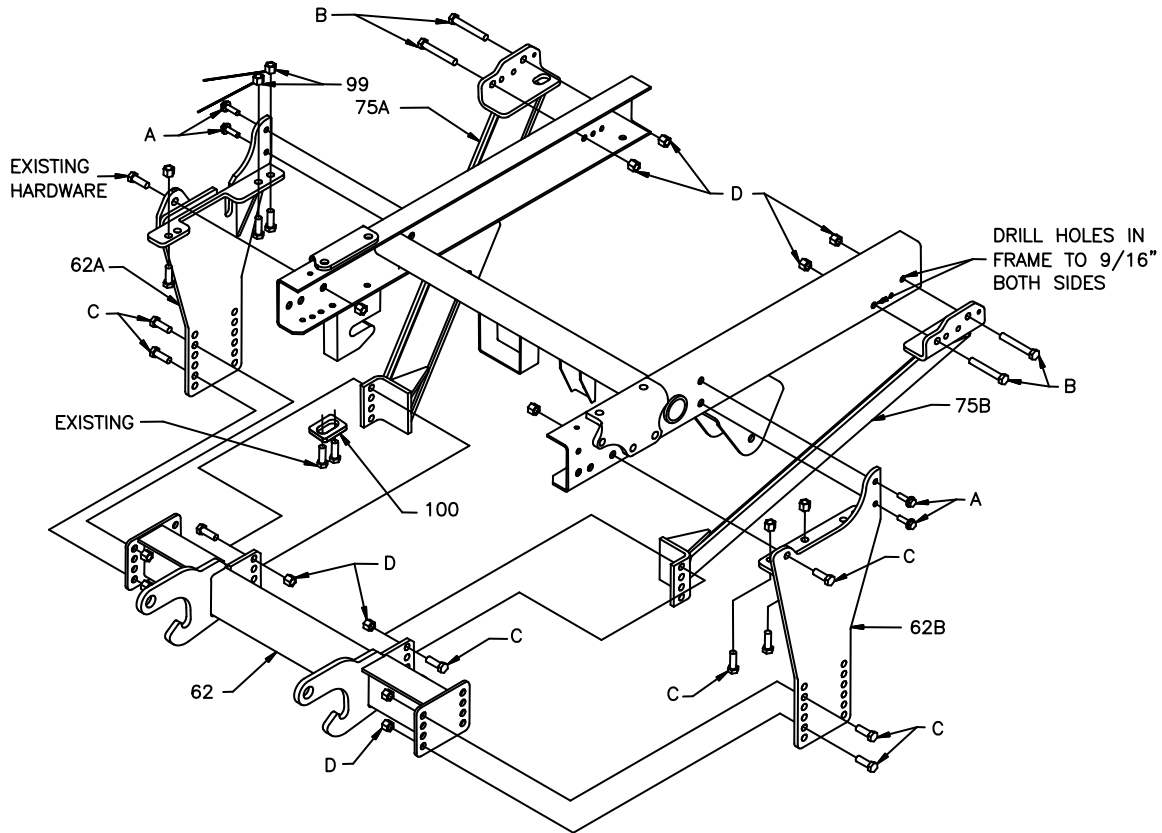

Figure 1
3. Position passenger side ANGLE BRACKET (75A) as shown in Figure 1 and attach to PUSH BEAM ASSEMBLY (62) using two ½-13x1-1/2 GR5 Hex Head Bolts (C) and two ½-13 Self Locking Nuts (D). Unbolt front brake line support brackets. After making sure PUSH BEAM ASSEMBLY (62) is level, raise the frame mount end of passenger side ANGLE